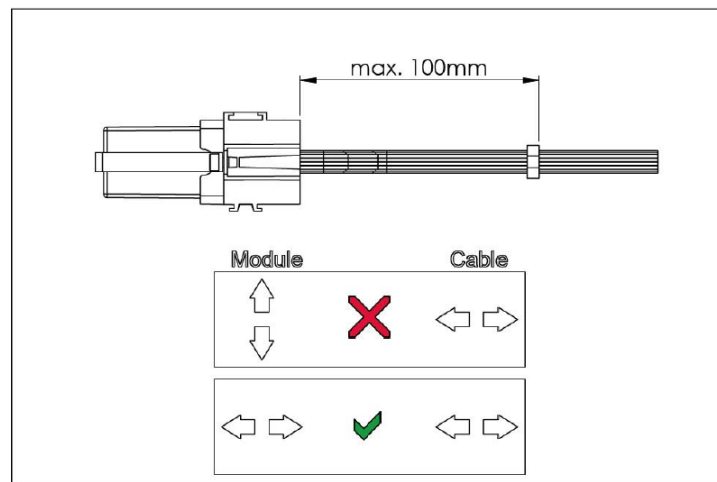

Figure 5: Strain relief of the cable harness (example). 100 mm (max.) are mandatory.
- The cable routing must be selected in such a way that the cable harness only moves identically to the direction of movement of the controller/plug. (Attachment controller/cable/strain relief on the same underground). A strain relief is necessary (see Figure 5).